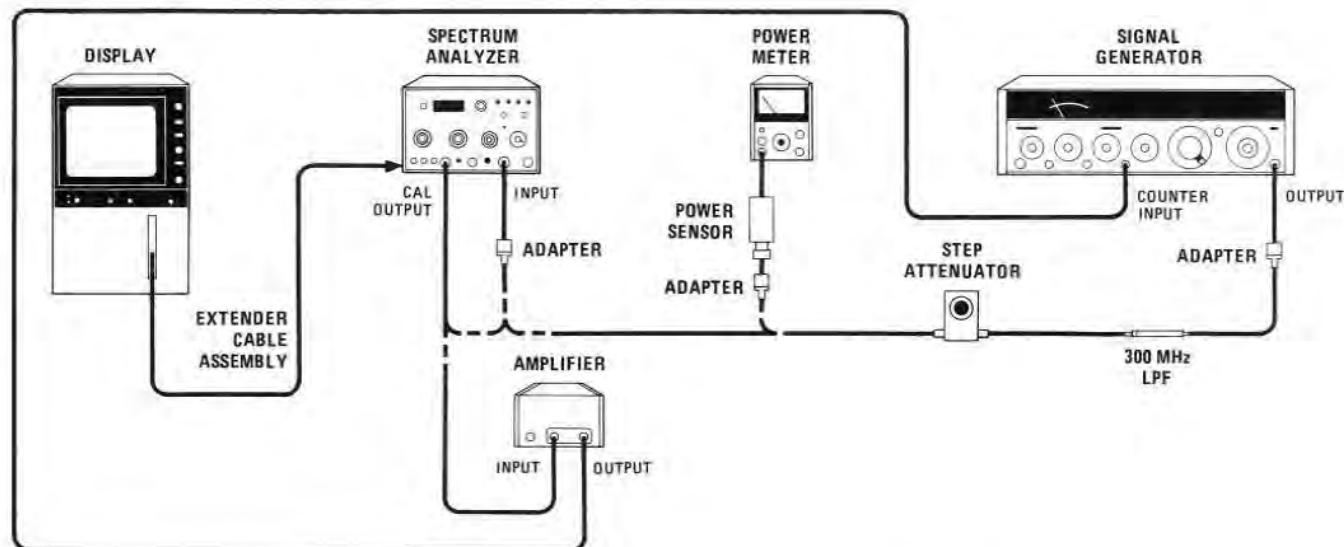

FIGURE 5-3. THIRD CONVERTER LO AND CAL OUTPUT ADJUSTMENT TEST SETUP
- Connect equipment as shown in Figure 5-3. Connect CAL OUTPUT to INPUT 50Ω connector.
- Connect power sensor and power meter to step attenuator as shown in Figure 5-3.